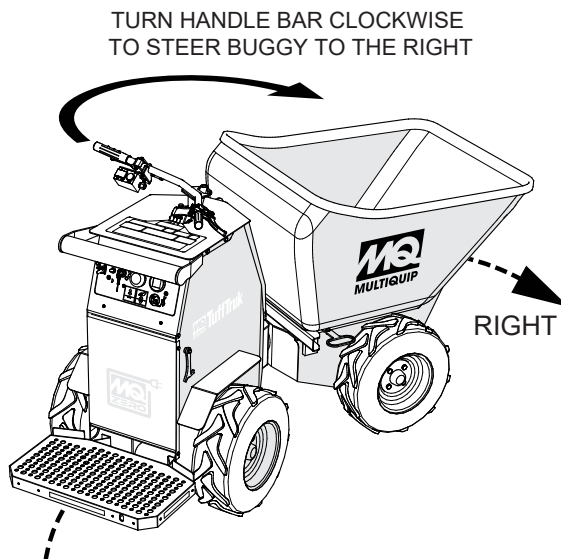

Figure 15. Steering the Buggy (CW-Right)
2. To turn right (Figure 15) when traveling in the forward direction, turn the handle bar in the clockwise direction.